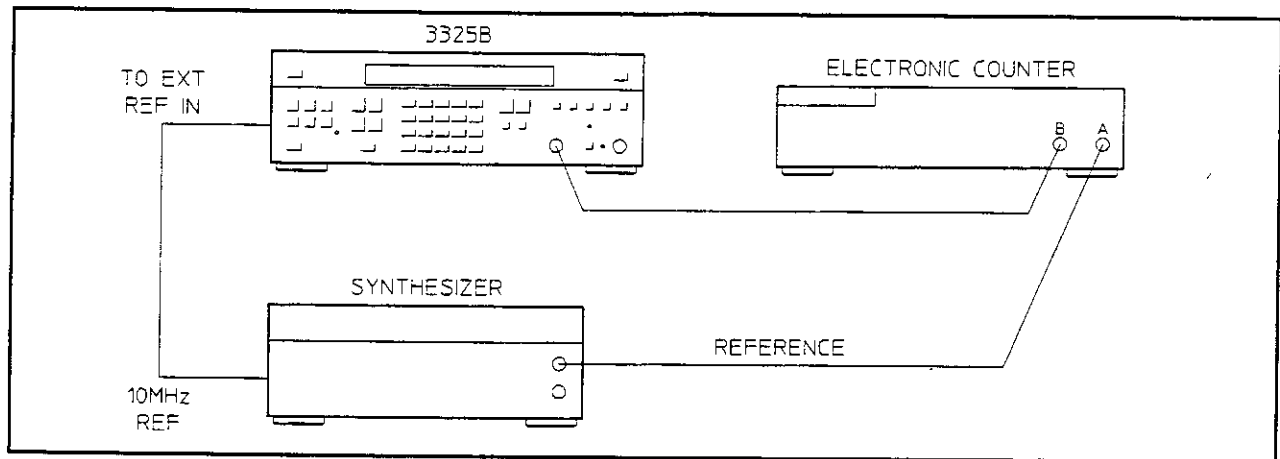

Figure 4-12. Phase Increment Accuracy.
- a. Connect the equipment as shown in figure 4-12.